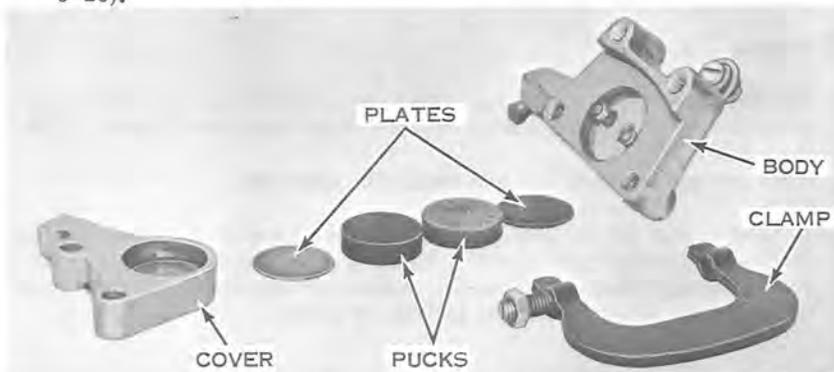

Figure 9-19. (1965)
- a. Disassemble brake assembly as required, noting relative positions of components to assure correct reassembly (see Figures 9-19 and 9-20).